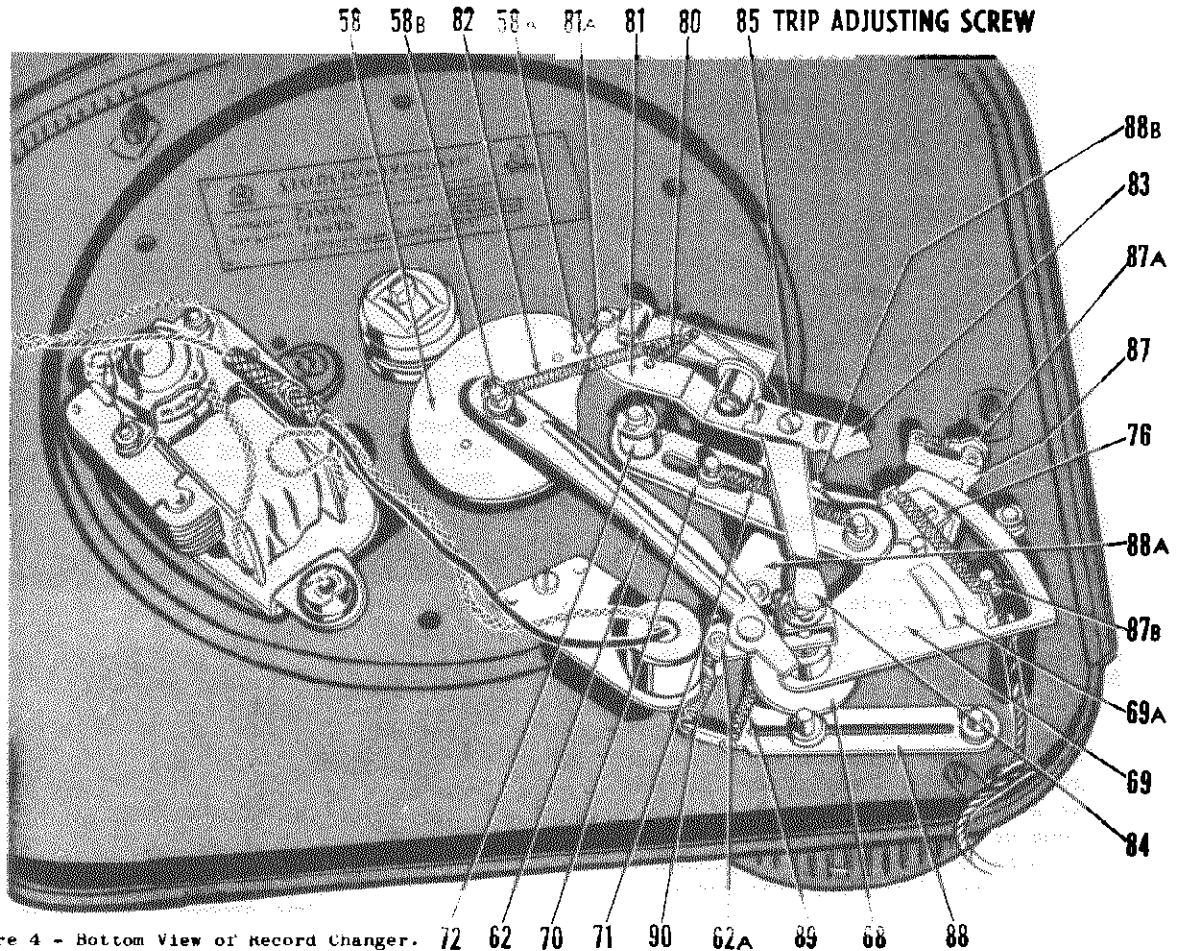

Figure 4 - Bottom View of Record Changer.
4. Adjust set-down screw (11) and repeat steps 2 and 3 until the proper distance between needle and centerpost is obtained.
This Record Changer uses the oscillating trip principle to begin the change cycle. Therefore it is very important that the trip adjusting screw (85) is properly adjusted for correct operation of the changer. (See Figure 4 and 6.)
(See Figures 4 and 8)